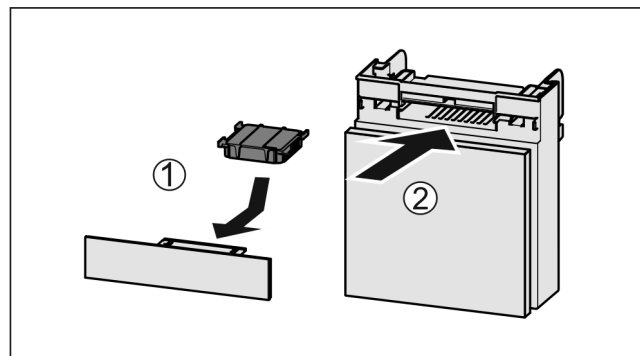

Fig. 90
- ▶ Insert the carbon filter as shown in the diagram *Fig. 90 (1)*.
- ▶ Push the compartment in *Fig. 90 (2)*.